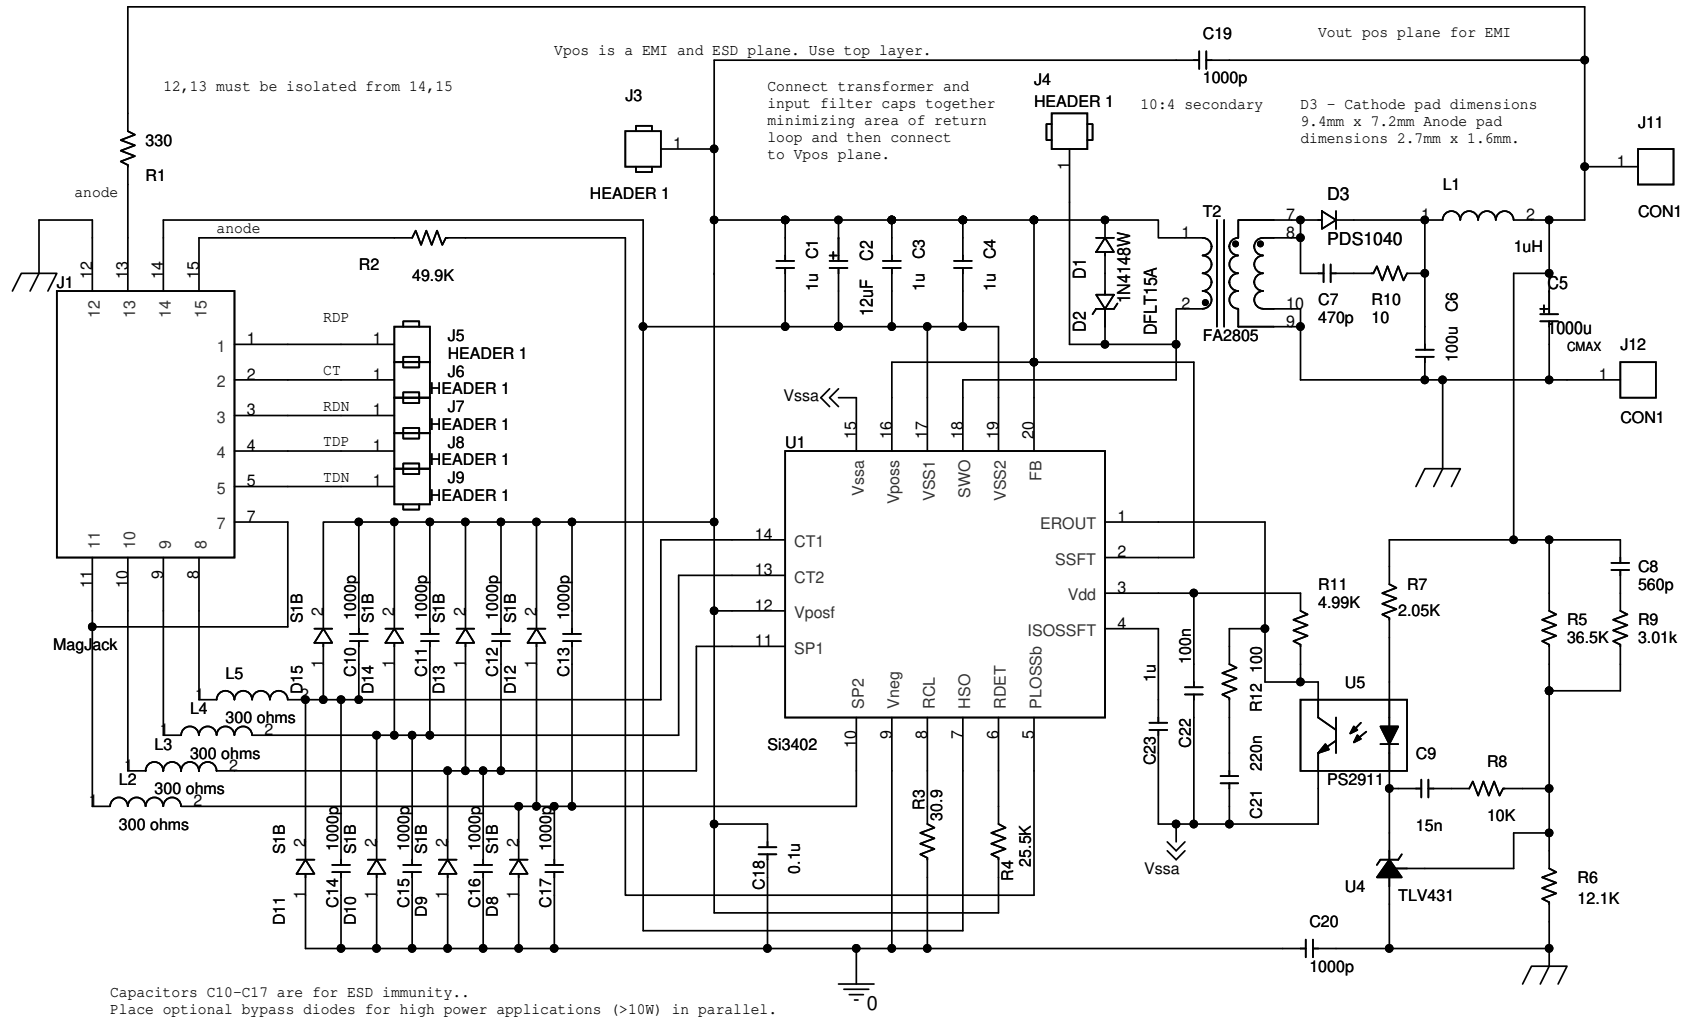

Figure 1. Si3402 Schematic—5 V, Class 3 PD
The board itself has no Ethernet data transmission functionality. The dc output is at connectors J11(+) and J12(-). Boards are generally shipped configured to produce +5 V but can be configured for +3.3 V or other output voltages as shown in Table 2 on page 10. The Si3402 board schematics and layout are shown in Figures 1 through 6. The Si3402 ISO-EVB is normally populated for 5 V output class 3 signature and without the diode bridge bypass recommended for higher power levels. Use the ordering option Si3402 ISO-C4-EVB for 5 V output, class 4 signature and diode bridge bypass for higher power levels.
- f. Based on your required PD power level, select the appropriate class resistor value by referring to Table 2 of AN296. This sets the Rclass resistor (R3 in Figure 1 on page 2).